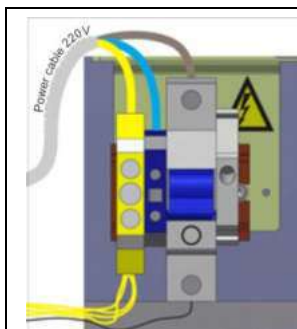
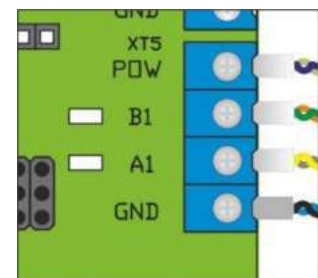

Fig. 17 – Connection of power supply cable
Fig.18 – Connection of control desk link cable to terminals
- a) Power supply cable ~230 V to be connected (Fig. 17):
- Phase (L) - to be connected to circuit breaker;
- Neutral (N) to be connected to terminal ~230V;
- Earth (PE) to be connected to earthing terminal (PE).
- b) Control desk link cable to be connected to terminals (Fig.18):